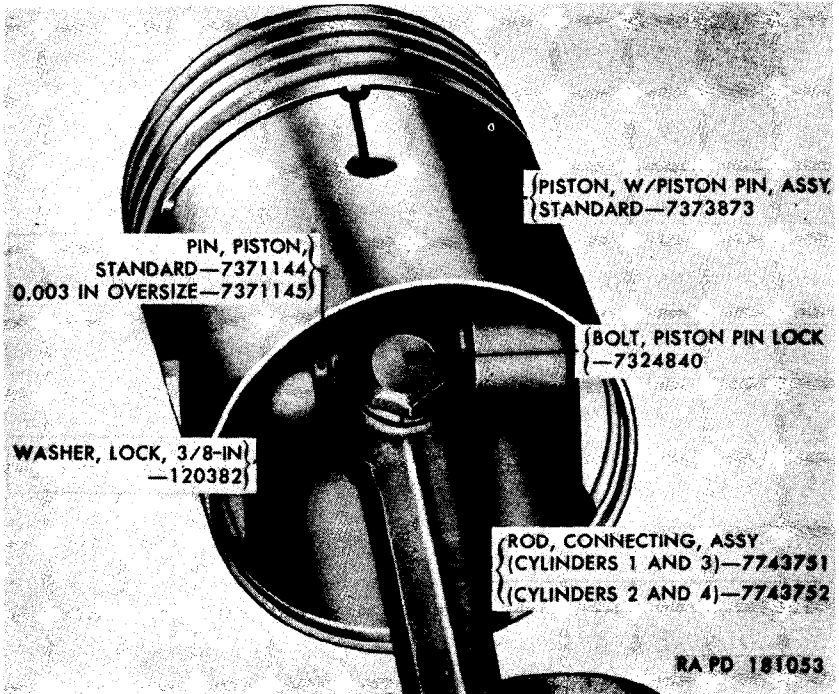

Figure 42. Location of piston pin lock bolt.
b. Clamp the connecting rod and piston assembly in a bench vise and remove the piston pin lock bolt and lockwasher (fig. 42).
d. Install the piston pin lock bolt and lockwasher (fig. 42).